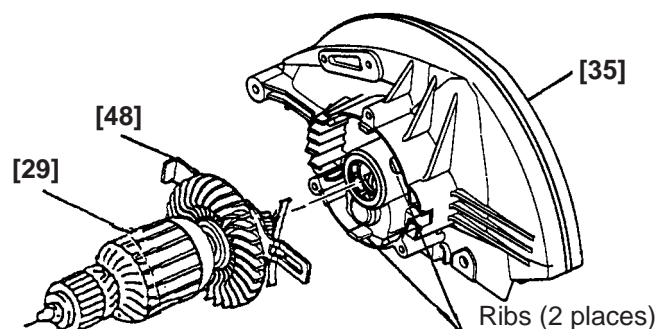

Fig. 11
(5) Assembling the Lock Lever [48] (See Fig. 11)
Wiring should be carried out by referring to Figures 11 and 12. During installation, be careful not to pinch the lead wires between the housing and the handle cover.